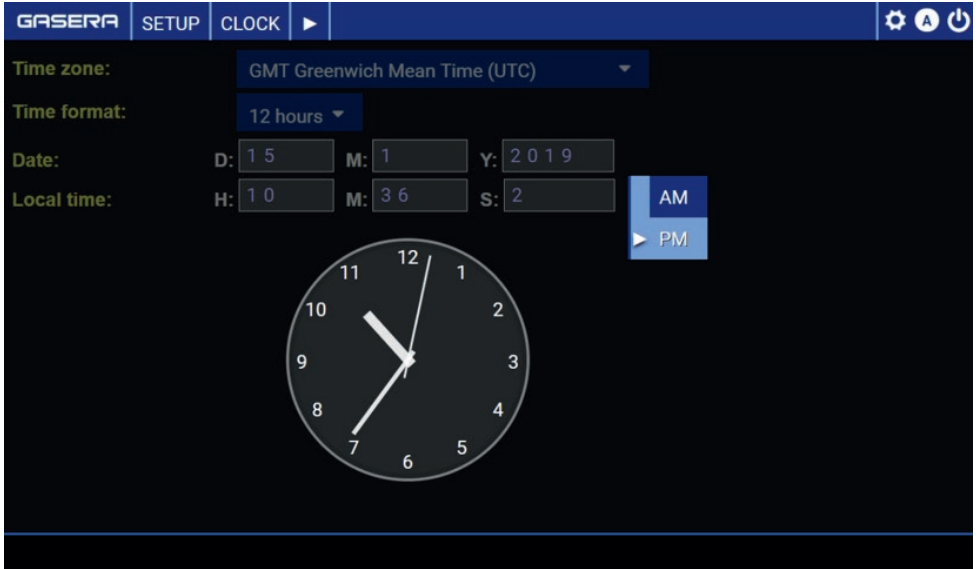

Figure 64. Selecting AM/PM Local time for 12h Time format.
**Time format** can be selected as either 24-hour or 12-hour time format. Please remember to set correct AM/PM value if 12-hour mode is selected as presented in Figure 64.